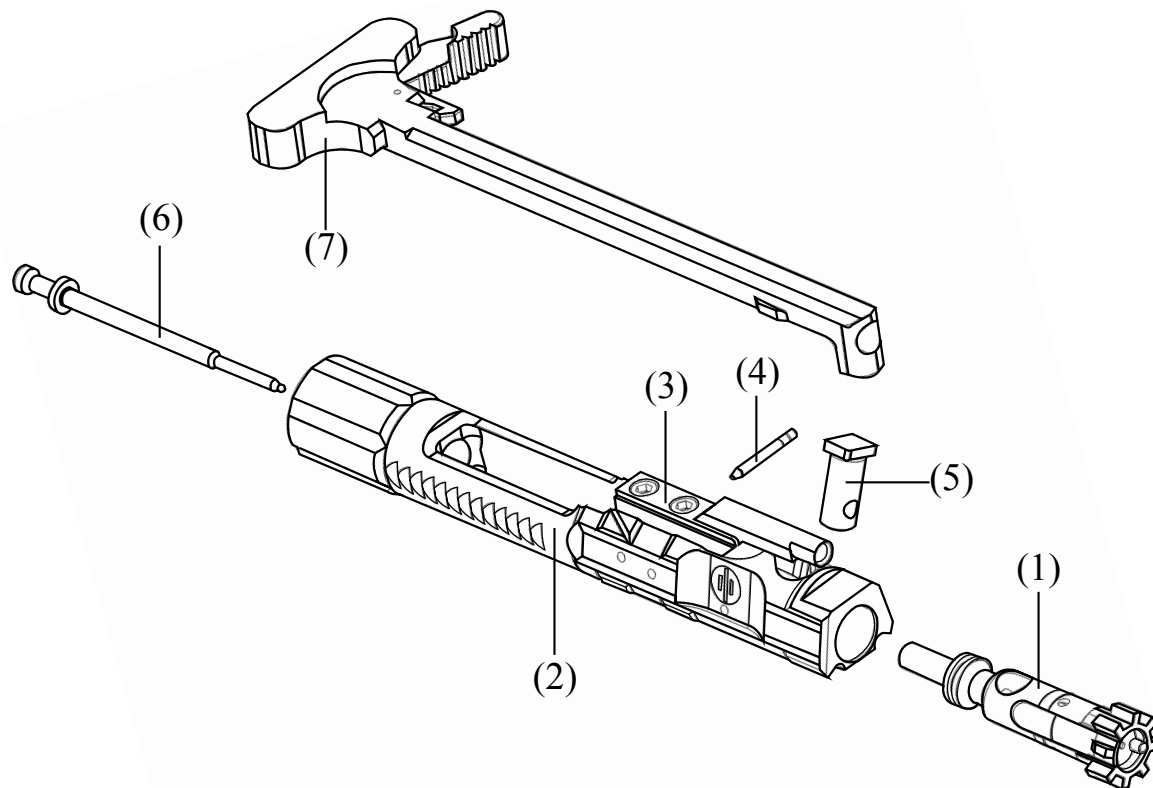

Figure 2.18
Inspect BCG (Fig. 2.18, 5) as follows:
1. Insert bolt (1) into BCG (2). Bolt should rotate freely.
2. Inspect carrier key (3) for dents, cracks, or looseness. If cracked or loose, repair or replace as necessary.
3. Inspect firing pin retaining pin (4) and bolt cam pin (5) for cracks, damage, or excessive wear. Replace if unserviceable.
4. Inspect firing pin (6) for damage. If tip is chipped, replace as necessary.
5. Inspect BCG (2) for damage or wear. If unserviceable, repair or replace as necessary.
6. Inspect charging handle (7) for cracks or damage. Wear marks in on the charging handle is normal as long as it does not diminish the structural integrity.
A small amount of lubrication is recommended on the enlarged contact points of the BCG (Fig. 2.18, 2) as well as on bearing surfaces of the bolt (1) and the cam pin (5).
1. Insert bolt (Fig. 2.18, 1) back into the front of the carrier (2).
2. Install bolt cam pin (5) and rotate one quarter turn.
3. Hold BCG (2) with bolt assembly (5) down and drop firing pin (6) in through the rear of the carrier (2).
4. Install firing pin retaining pin (4) from left side only to ensure proper installation check for proper installation by holding BCG (2) with bolt assembly (1) up, then attempt to shake out firing pin.